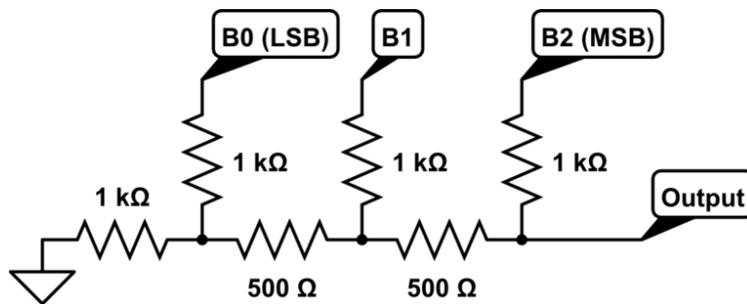

Figure 5
- Using only 1% 1k Ω resistors construct the circuit shown in figure 5 (use two 1 k Ω resistors in parallel to get 500 Ω).